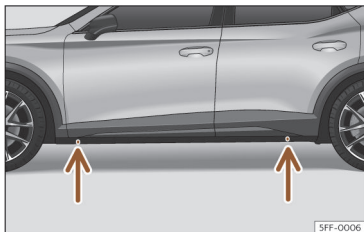

Fig. 39 Jack position points.
- Find the support point on the strut (sunken area) closest to the wheel to be changed >>> Fig. 39.